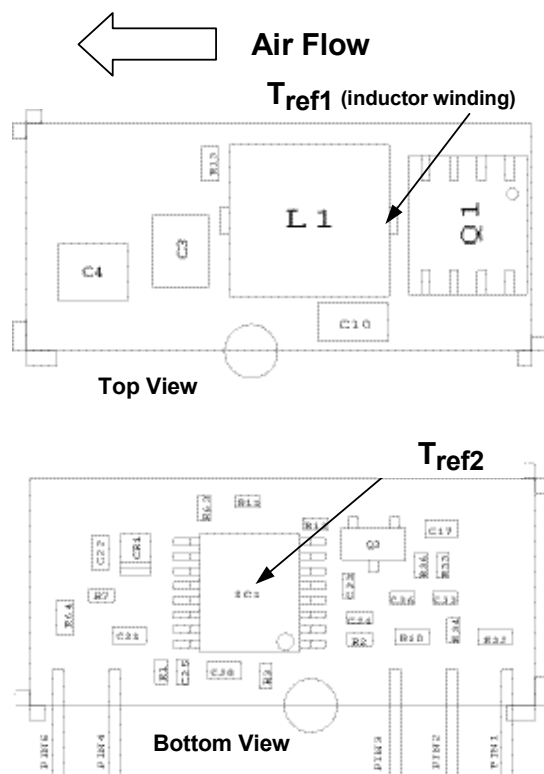
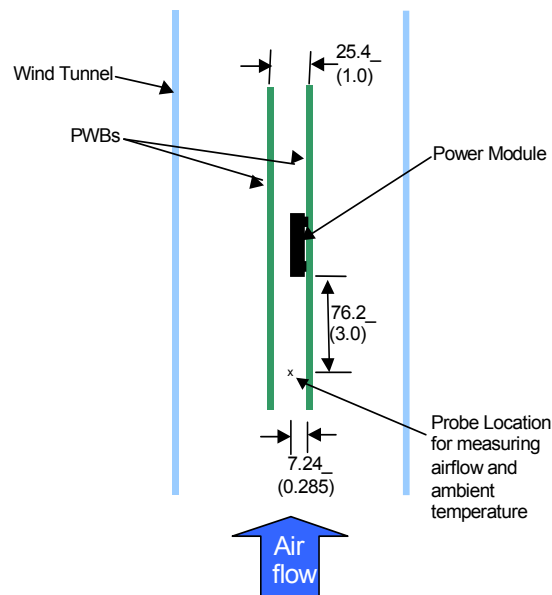

Figure 32.  $T_{ref}$  Temperature measurement location.
Figure 33. Thermal Test Set-up.
Considerations include ambient temperature, airflow, module power dissipation, and the need for increased reliability. A reduction in the operating temperature of the module will result in an increase in reliability. The thermal data presented here is based on physical measurements taken in a wind tunnel. The test set-up is shown in Figure 33. Note that the airflow is parallel to the long axis of the module as shown in figure 32. The derating data applies to airflow in either direction of the module's long axis.
The thermal reference point,  $T_{ref1}$  used in the specifications of thermal derating curves is shown in Figure 32. For reliable operation this temperature should not exceed 125°C. The output power of the module should not exceed the rated power of the module ( $V_{o,set} \times I_{o,max}$ ).